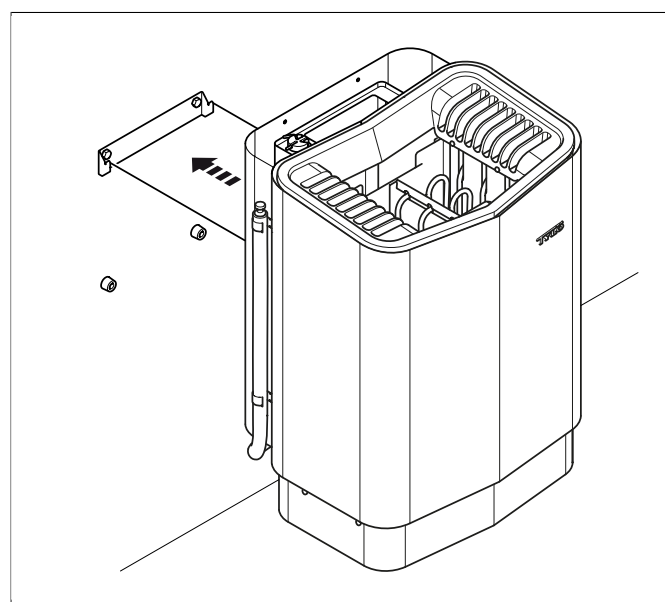

**Figure 11:** Hang the heater up.
9. Hang the heater on the bracket (see **Figure 11**, Page 5).